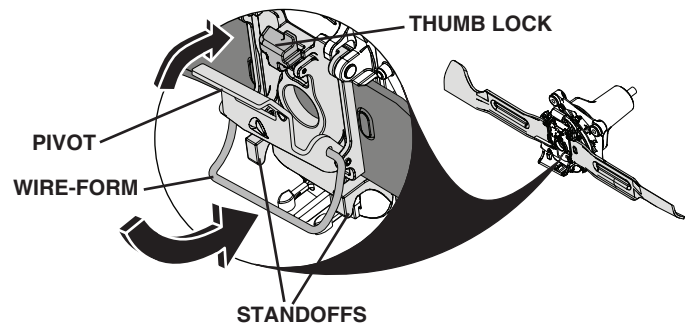

Fig. 33
- Push pivot closed until secured by the thumb lock. (See Fig. 33.)